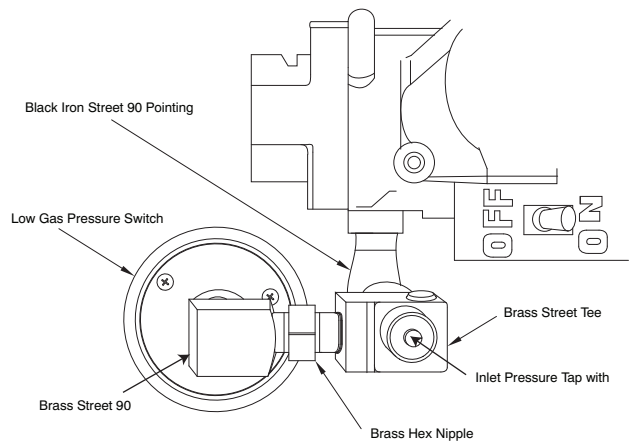

Fig. 11 - LGPS for 14-3/16 (360 mm) Casing or When Vent Passes Between Inducer and Burner Assembly
If the vent pipe passes between the inducer and burner assembly, or the furnace is a 14 3/16-in. (360 mm) wide casing, install the switch as follows. See Fig. 11.
3. Apply pipe dope sparingly to the male threads of the 1/8-in. brass street tee. Install the male end of the street tee as shown in Fig. 11. One opening on the street tee should face you. The other opening should be parallel with the inlet of the gas valve.
4. Apply pipe dope sparingly to the male threads of the 1/8-in. brass hex nipple. Install the hex nipple into the open end of the brass street tee. See Fig. 11. The hex nipple should be parallel with the boss on the gas valve.
- Apply pipe dope sparingly to end of inlet gas pipe plug and install into unused end of 1/8 in. tee. Use a small back-up wrench on tee when tightening gas inlet pipe plug. See Fig. 11 and 12.